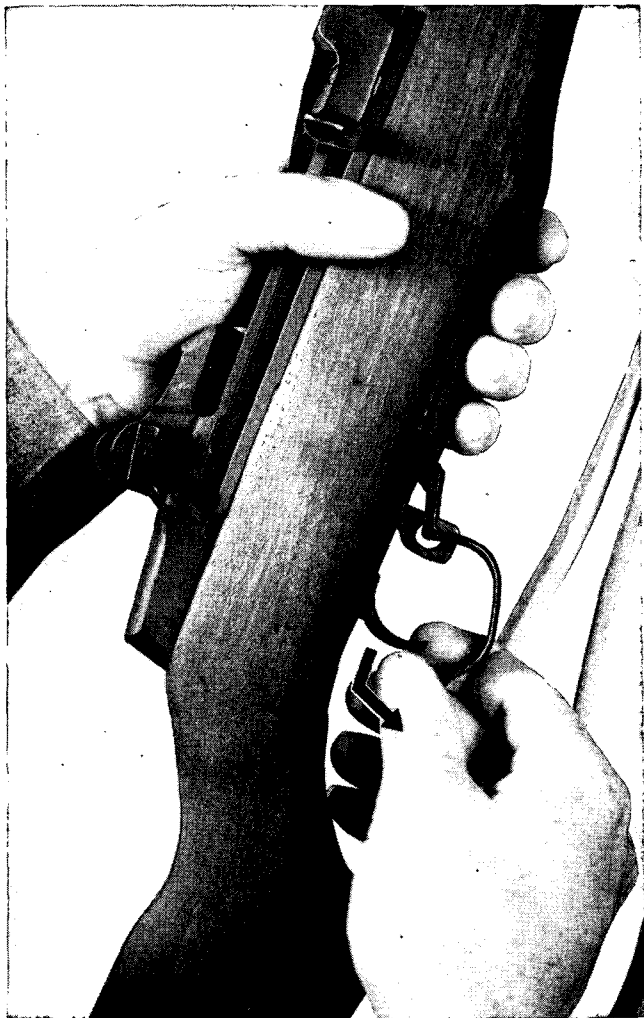

Figure 6. Removing the trigger housing group.
b. To disassemble the rifle into the three main groups, grasp it with the left hand so that the base of the trigger housing is included in your grip. Place the rifle butt against your left thigh, sights to the left. With the thumb and forefinger of your right hand, pull downward and outward on the trigger guard. Swing the trigger guard out as far as it will go. Lift out the trigger housing group (fig. 6).